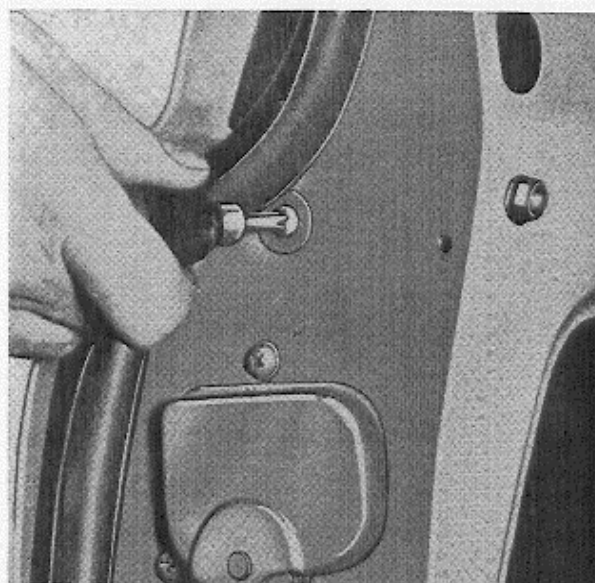

Fig. 13. Unscrewing the upper screw for the guide rail.
1. Unscrew the two screws which hold the guide rail for the window. The screws are accessible from the edge of the door as shown in Fig. 13. Lift out the guide rail.